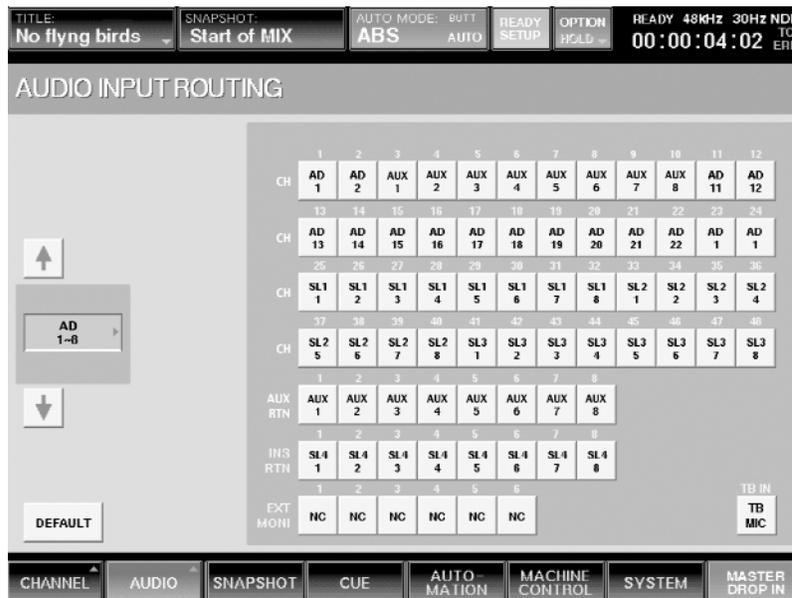

Figure 18
- You can also make input assignments in blocks of 8. To do so, simply press the desired SOURCE button once only, then press the Channel button of the first of 8 channels you wish to make the assignment to. For example, to assign the signal arriving at Aux returns 1 - 8 to channels 3 - 10, press the AUX RET 1-8 Source button once, then press Channel 3. (See Figure 18)